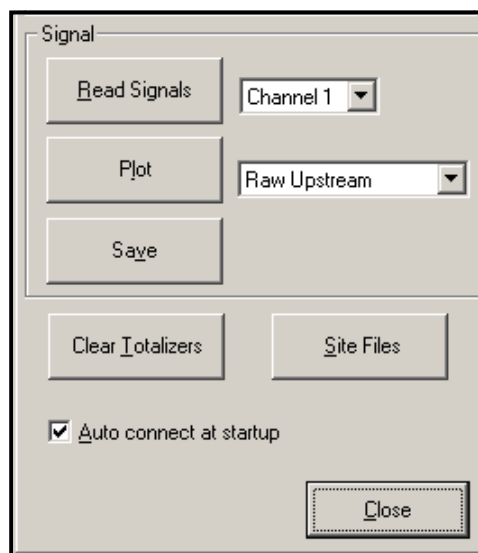

Figure 7: Active Signal Options
3. To read a signal from the meter, click on the **[Read Signals]** button. (If the meter is a multi-channel instrument, open the Channel drop-down menu and click on the desired channel.) After a moment, the *Properties* window appears similar to *Figure 7*.